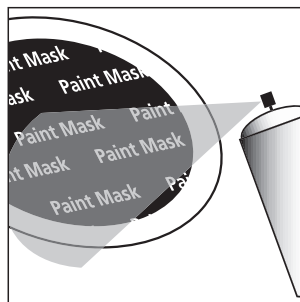

FIGURE 7
1. Apply paint to exposed (unmasked parts). Use two or more thin coats. Spray painting is recommended [figure 7].